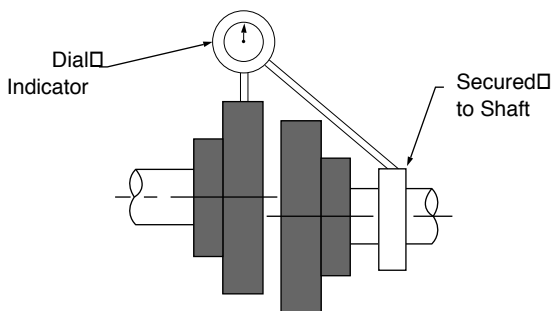

FIGURE 79. Dial Indicator Method of Checking Parallel Alignment
- To check parallel misalignment, the dial indicator method shown in Figure 79 is preferred.